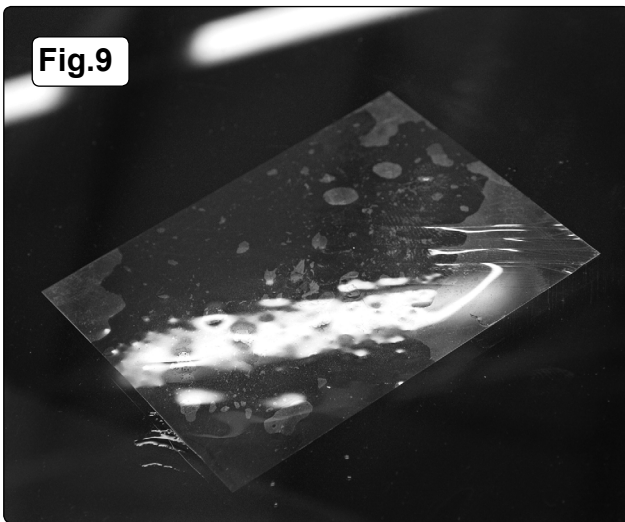

Fig.9
4.13. Lay a curing strip over the top of it. Make sure there is no air left under the curing strip. (See fig.9).